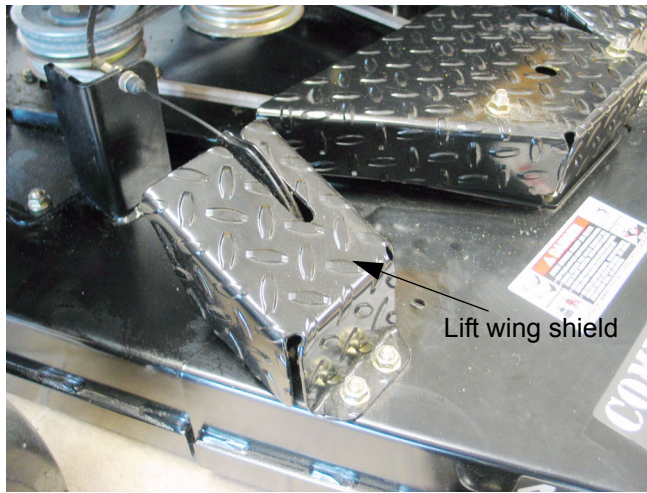

Figure 11.4
11.4. The lift mechanism can be reached by removing the lift wing shield using a 9/16" wrench. See Figure 11.4.